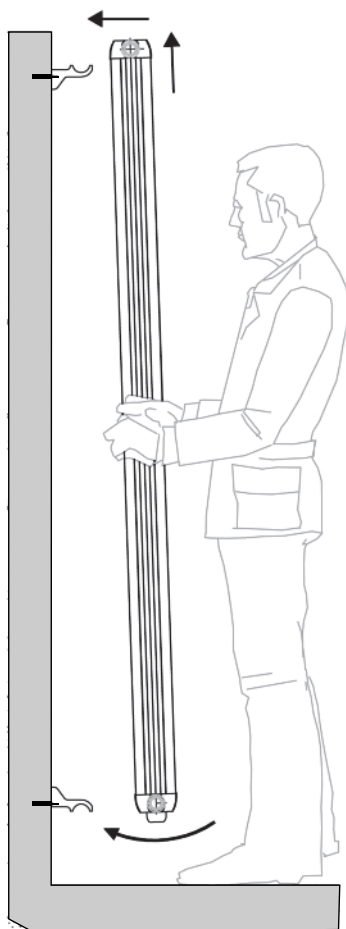

Fig. 3
3. Position the radiator and rest it on the upper brackets verifying the stability and correspondance to the floor (fig.3)